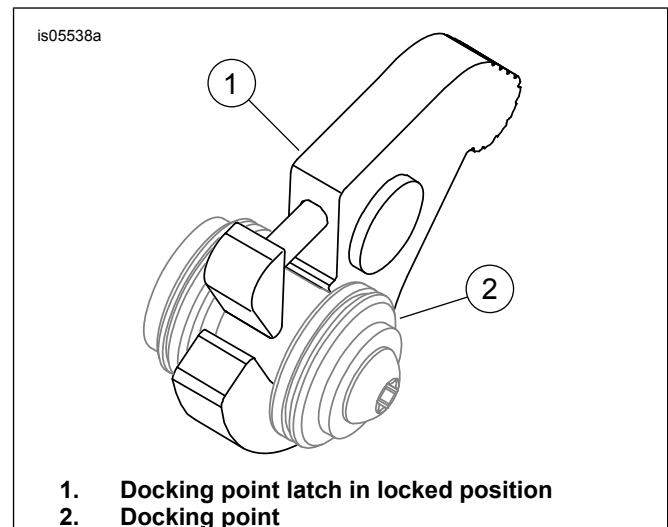

Figure 2. Latch and Docking Point
3. See Figure 2. Position the rotary latches (1) over the rear docking points (2). Check the rotary latches fit into the neck of the rear docking points as shown. This may require some gentle squeezing or spreading of the side plates.